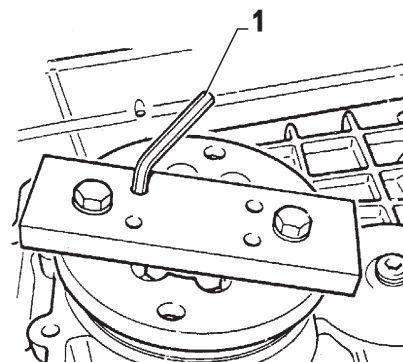

FIG. 4-2
Apply forcing plate and position screw heads with regard to forcing plate boreholes by means of Allen key (item 1, Fig. 4-2). Using an Allen key, turn screws positioned in the output flange against forcing plate.
This will press the output flange off the output shaft (Fig. 4-2).